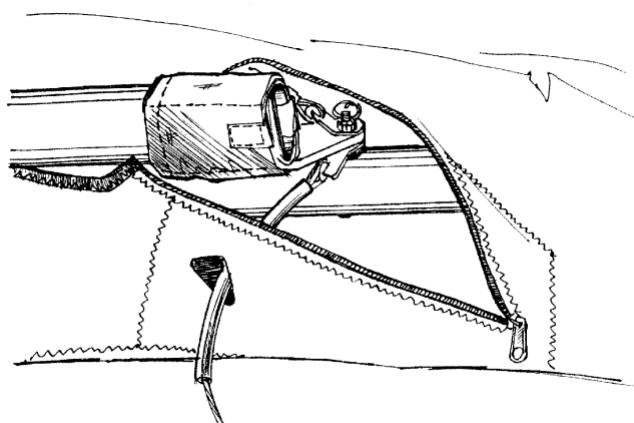

Fig. 34
2.4.3. Look through the open bottom surface pockets near the crossbar/leading edge junction and check that this junction is safely secured with the nut and the safety ring. Check that side wires are attached to the junction properly, that wires are not twisted and are not caught up (Fig. 34).